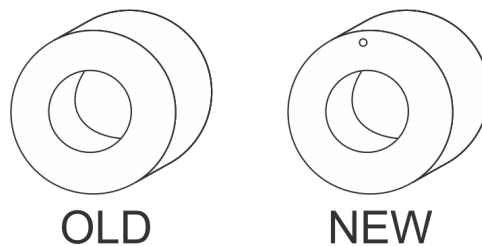

Figure 7-1. Old and New Cams
1. Visually inspect the cam (33). New design cams are identified by a 0.06 inch indentions on the face (Figure 7-1). If the cam does not have a 0.06 inch indentation on its face, replace it with a new design cam. If the cam is a new design but exhibits scratches or wear, replace it with a new assembly.